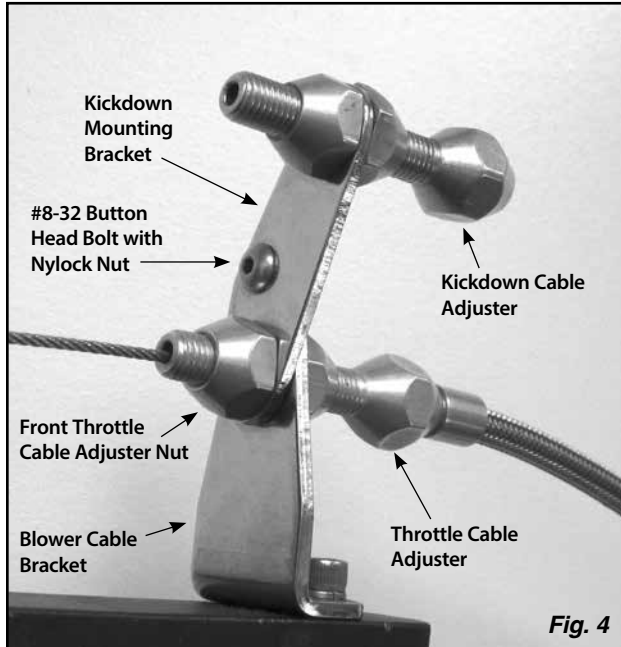

Fig. 4
Step 5: Route the throttle cable inner wire and the throttle cable adjuster through the bottom hole in the kickdown mounting bracket. Reinstall the front throttle cable adjuster nut, and connect (or reconnect) the throttle cable inner wire. Attach the kickdown mounting bracket to the blower cable bracket as shown in **Fig. 4**, using the #8-32 x 1/2" button head bolt and nylock nut.